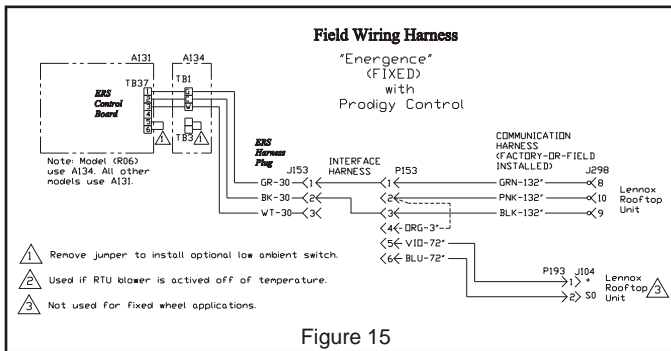

Figure 15
8. Remove the right front (rooftop unit side) access panel and locate the field wiring harness that was previously routed into the return air of the rooftop unit. Plug the field wiring harness into the connector located at the bottom of the access door inside the ERS. **See Figure 14 and Figure 15.**